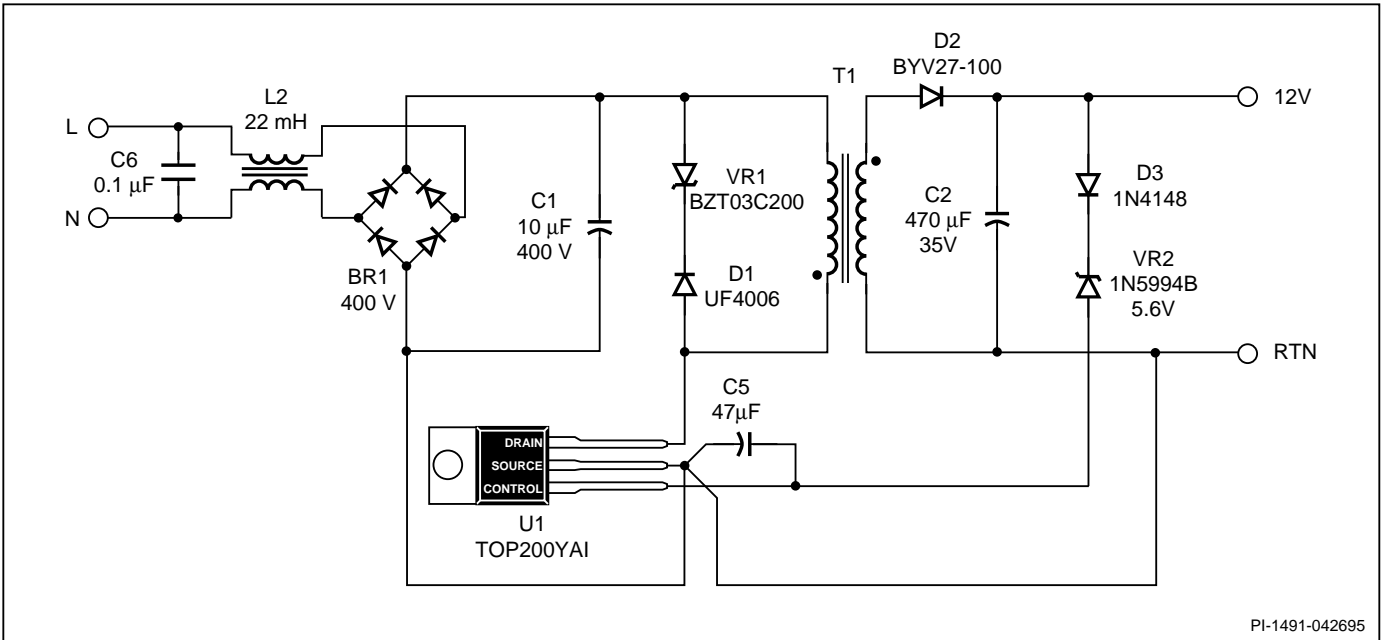

Figure 1. Non-Isolated Motor Power Supply.
- DC Motor Supply (Figure 1, 2)
Figure 1 shows a 10 Watt supply operating from 230 VAC input and delivering a single 12V output to a low voltage DC motor.
With 12 Volt output, this represents a 1.5% variation between minimum and maximum duty cycle. Figure 3 shows load regulation data from the Figure 1 circuit and demonstrates a 1.2% change in output voltage  $V_{\text{OUT}}$  as the load changes from 10 to 100% (1 to 10 Watts). Directly sensing the output voltage as shown in the circuits of Figures 1 and 2 yields excellent line regulation (less than 1%) from 180 to 265 VAC.
The circuits shown in Figures 1 and 2 have a DC gain determined by two series impedance terms: the Control pin dynamic impedance  $Z_C$  and Zener diode dynamic impedance  $Z_{\text{VR}2}$ . Circuit stability under all conditions of line and load may require increasing effective Control pin impedance with an external series resistor. If circuit instability is observed, start with  $47\ \Omega$  in series with the Control pin. Values from  $15\ \Omega$  to  $200\ \Omega$  should be tested. Equations 1 and 2 should be modified to include this additional series resistance to determine the effects on output voltage and load regulation.